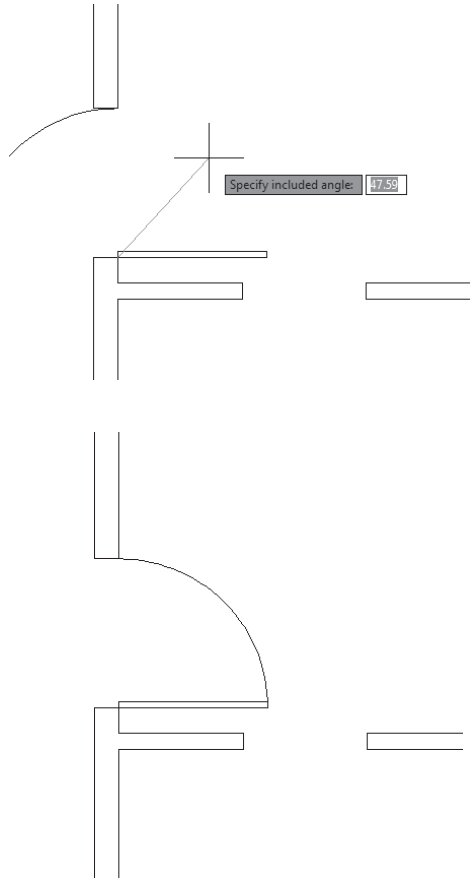

FIGURE 4.49: Drawing the arc: The ending point of the arc follows the cursor's movements (top), and the completed arc (bottom).
The arc is now visible, and its endpoint follows the cursor's movement, but the arc is extending in the wrong direction (see the top image in Figure 4.49). The prompt displays the Specify Included Angle option.
- Type `-90.J`. The arc is completed, and the ARC command ends (see the bottom image in Figure 4.49).